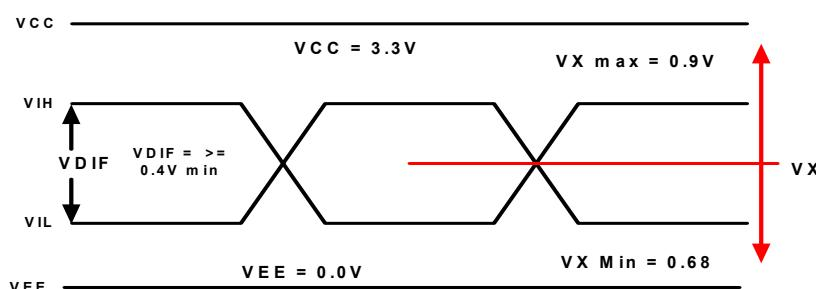

Figure 2. HSTL Differential Input Waveform Definitions
8. $V_X(AC)$ is the crosspoint of the differential HSTL input signal. Normal AC operation is obtained when the crosspoint is within the $V_X(AC)$ range and the input swing lies within the $V_{DIF}(AC)$ specification. Violation of $V_X(AC)$ or $V_{DIF}(AC)$ impacts the device propagation delay, device and part-to-part skew. Refer to Figure 2.